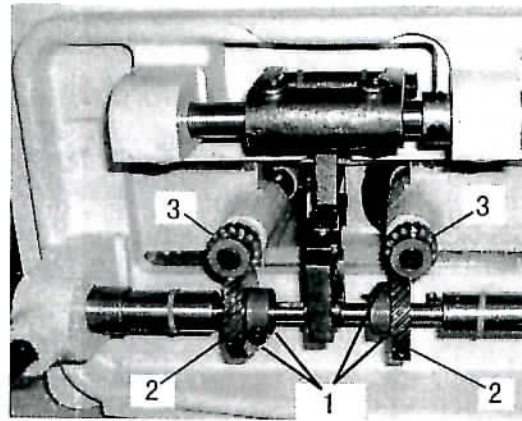

Fig.22
2 screws (1) for hook driving gear, and tap this gear to the right or left in clearance of 2 mm on the hook driving shaft until the point of the hook is at the center of the needle. Tapping to the right gives on earlier hook timing, and to the left gives later hook timing. Except the above case, to adjust in changing gear condition between hook driving gear (2) and hook shaft gear (3). Securely tighten the 2 set screws (1) for hook driving gear after finished adjustment. (Fig.22) .